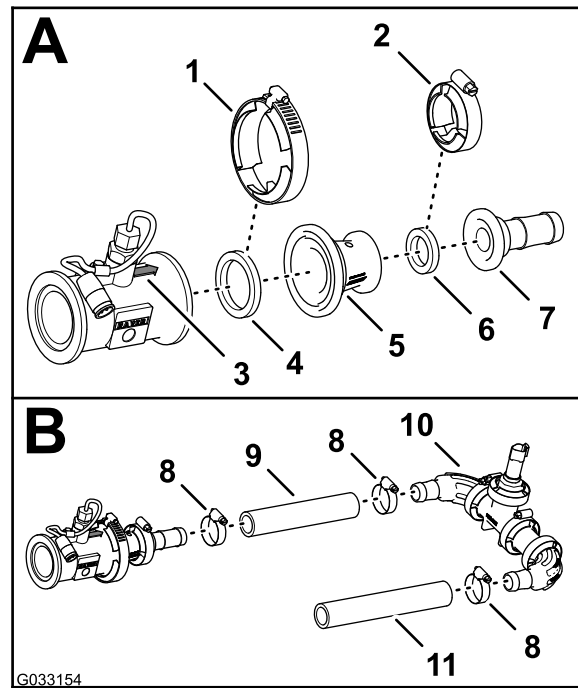

Figure 125
1. Align the gasket (2-1/4 inches) and reducer adapter to the end of the flow meter to which the directional points (Figure 125).
2. Secure the flow meter, gasket, and reducer adapter (Figure 125) with a flange clamp 76 mm (3 inches).
3. Align the gasket (2-1/4 inches) and barbed hose fitting to the end of the reducer adapter (Figure 125).
4. Secure the barbed-flange fitting, gasket, and reducer adapter (Figure 125) with a flange clamp 51 mm (2 inches).
5. Assemble the hose (1 x 7-1/4 inches) onto the barbed-flange fitting and the barbed elbow fitting of the pressure transducer and manifold as shown in Figure 125.
6. Secure the hose and barbed fittings with 2 hose clamps (Figure 125).
7. Assemble the hose (1 x 8-1/2 inches) onto the other barbed elbow-fitting of the pressure transducer and manifold as shown in Figure 125.
8. Secure the hose and barbed fitting with a hose clamp (Figure 125).